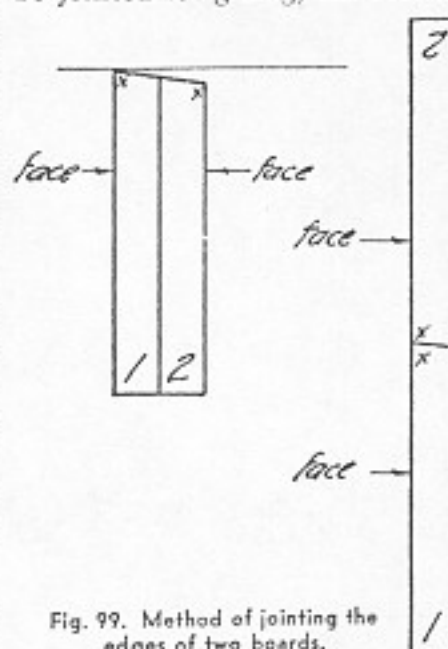

Fig. 99. Method of jointing the edges of two boards.
2. The boards are clamped together in the bench vise with both faces out. The two edges are planed at the same time. In this way the angles of both are always equal even if they are not absolutely square to the sides. When one is placed on top of the other, the faces are always in line (Fig. 99).